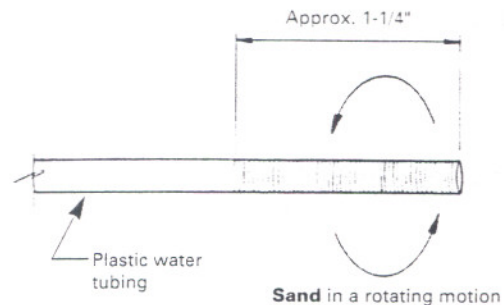

FIG. 9
non-slipping, trouble free connection. (Fig.9)
2. **Sand the plastic water tubing end (Approx. 1-1/4") with medium sandpaper in a rotating motion.** (Fig.9)